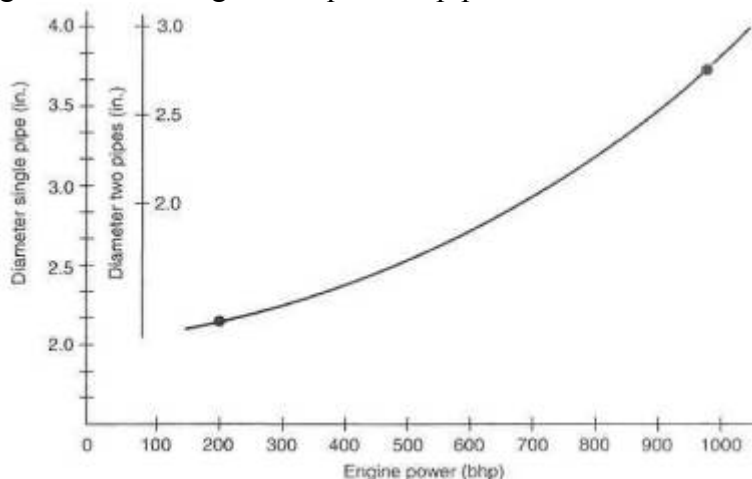

Fig. 11-4. Approximate exhaust pipe flow area for specific power output
**Basic tube size.** it is easy to get overeager on fitting large-diameter pipes into an exhaust system. "The larger the better" is not the case. As indicated in Chapter 5, there is an exhaust gas velocity that ought not to be exceeded. I am going to suggest that for exhaust calculations, this velocity is approximately 250 ft/sec. The considerable expansion of exhaust gas due to the temperature increase also requires a significant increase in the desired volume of the tailpipe. The tubes for the hot gas on the exhaust side should therefore be larger than the tubes for the cooler intake side. Base the calculation on the same conditions as for intake tubes, but use a maximum velocity of 250 ft/sec rather than 450 ft/sec. To size a tailpipe, you can adhere to this exhaust gas velocity or to the simple guideline of selecting a tube diameter approximately 10% larger than the turbine outlet diameter. Figure 11-4, exhaust tube size versus bhp, offers a good guide to choosing an adequate tailpipe size.